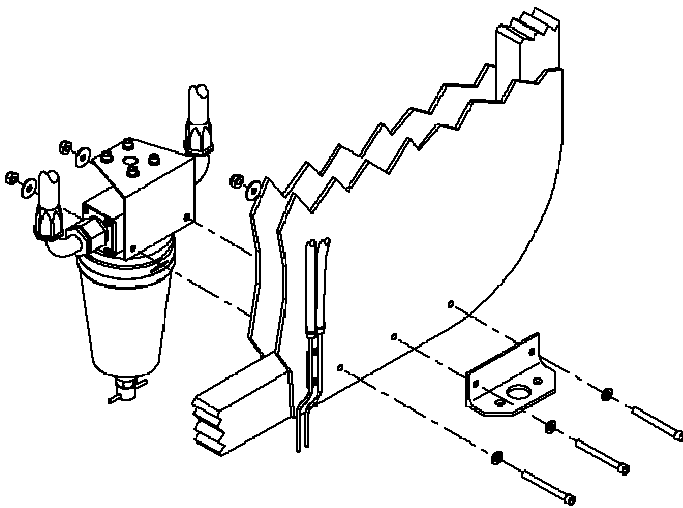

Figure 1
- (A) Remove wing root fairings.
- (B) Remove upper and lower engine cowls.
- (C) Remove stainless plate.
- (A) Put left angle bracket in place sharing the fuel filter external screw (refer to fig. 1).